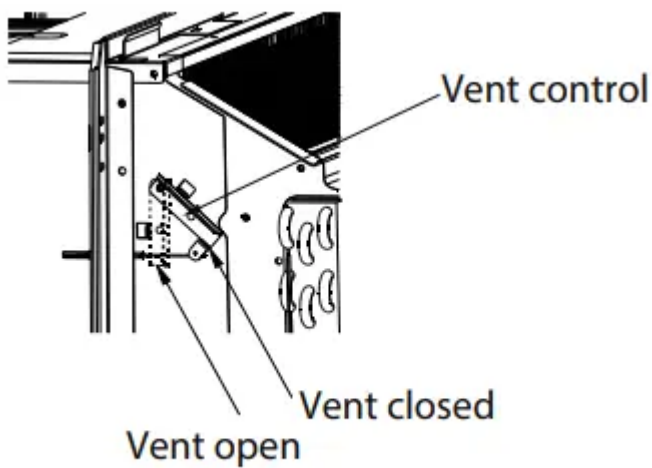

Fig. 10
- Rotate the vent control lever to either open or close the vent door. (see Fig. 10)